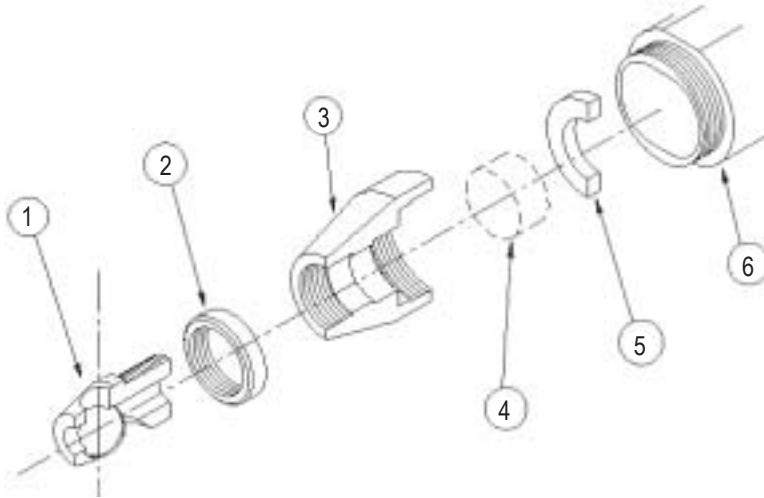

Figure 3. Exploded and Sectioned View of Laser Input Sensor Front End
The nose unit accepts ½-inch diameter filters of various thicknesses (item 4 in Figure 3 on page 16). The thread on the front of the nose unit is 0.535 inch x 40 UNC (item 3 in Figure 3 on page 16).